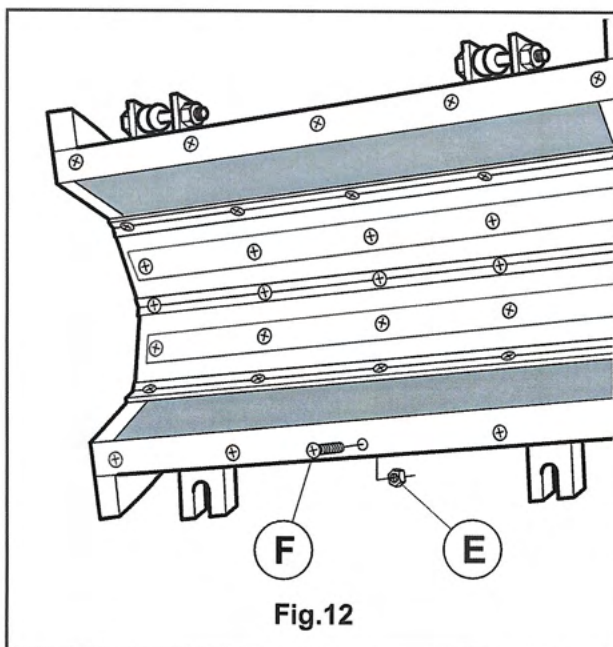

Fig.12
- *Open safety shield (A Fig.12), loosening the fastening knob (B Fig.12).*
- *Unscrew both fastening screws (C Fig.12) and grub screws (D Fig.12) so that part of the grids can be pulled out.*